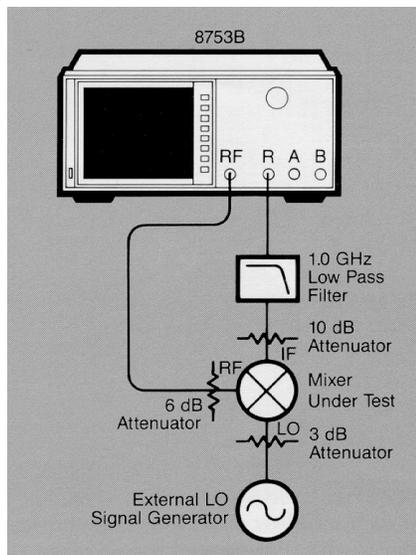

Figure 3. Block diagram for a fixed IF/fixed LO/fixed RF conversion loss measurement
The simplest of all conversion loss measurements is the fixed IF/fixed LO measurement where all three frequencies are held constant. Figure 3 shows the block diagram for a fixed IF/fixed LO conversion loss measurement.
1. Connect the instruments as shown in Figure 3.
2. Press **[PRESET]** on the front panels of the 8753B and the local oscillator (LO) source.